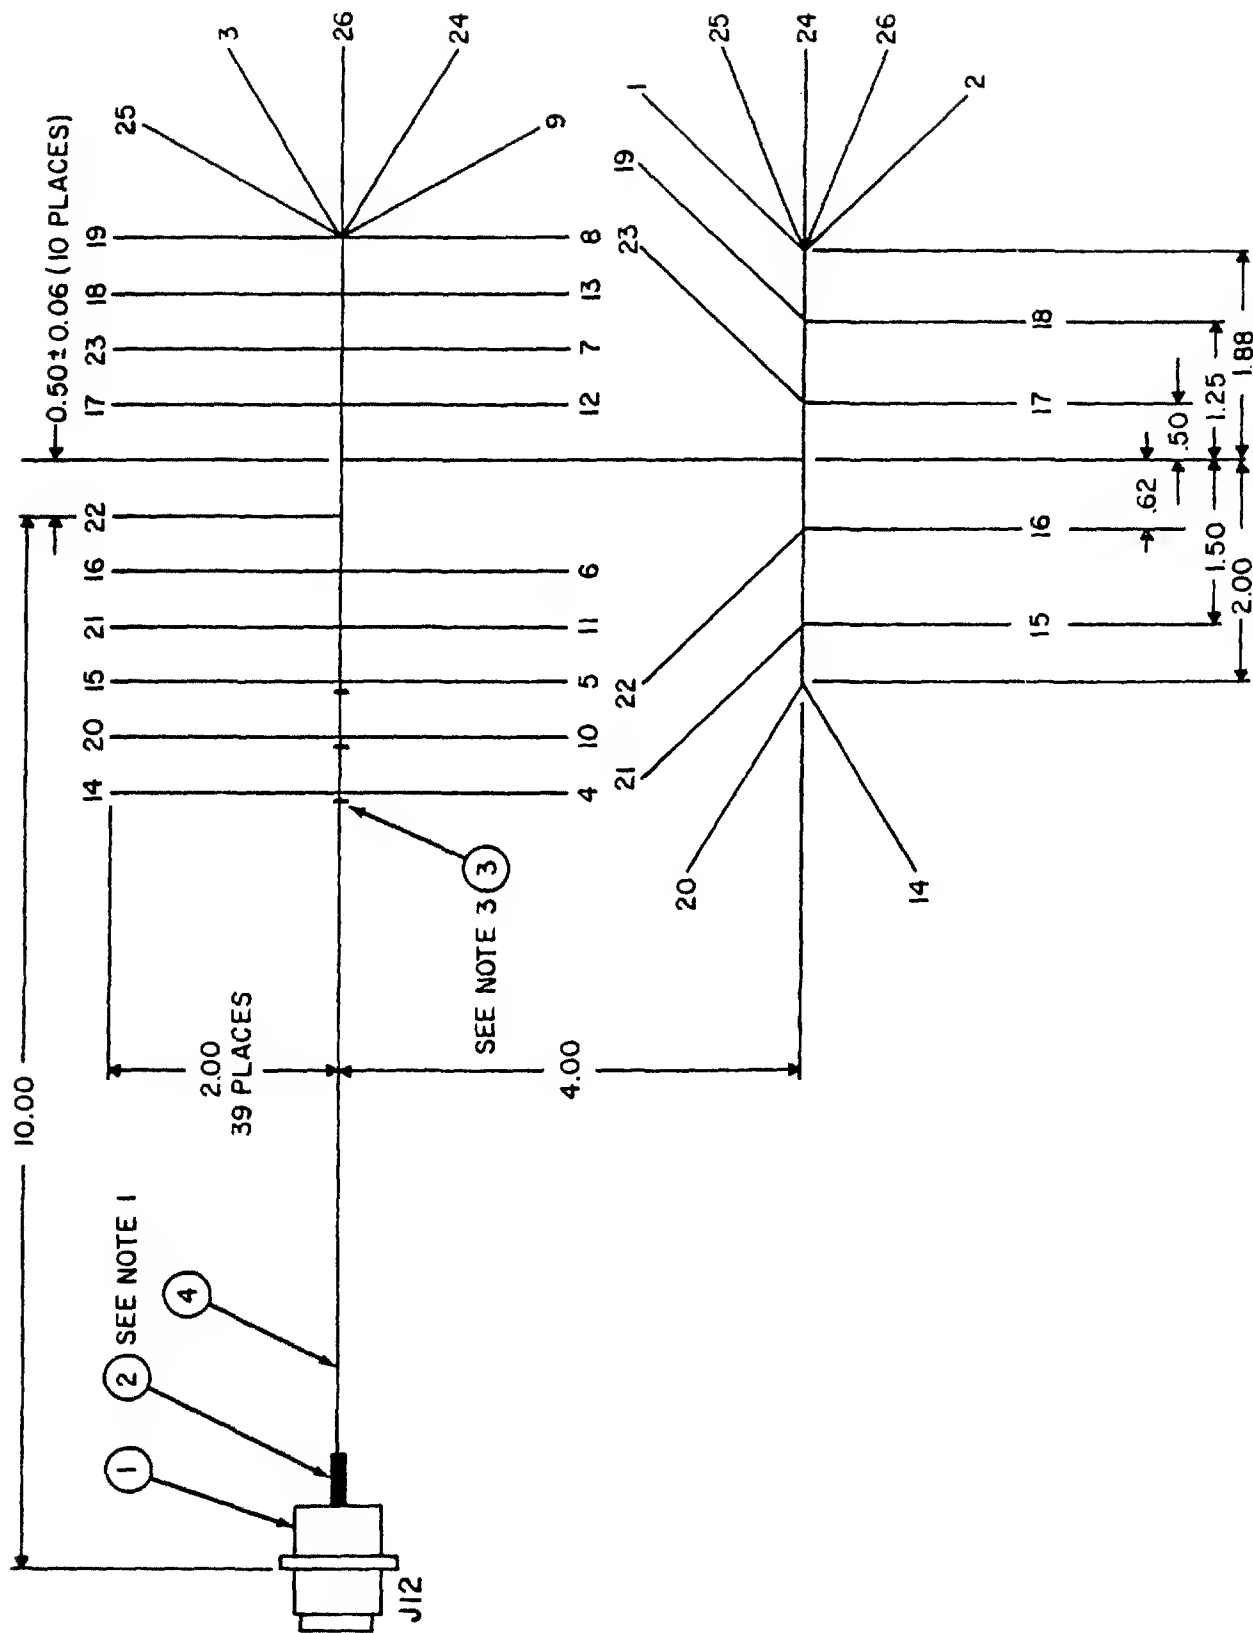

Figure 5-1. Fault Indicator A9, Wiring Harness (Sheet 1 of 2)
- a. Repair or fabricate fault indicator A9 wiring harness in accordance with figure 5-1.
- (1) Restencil all illegible reference designations: